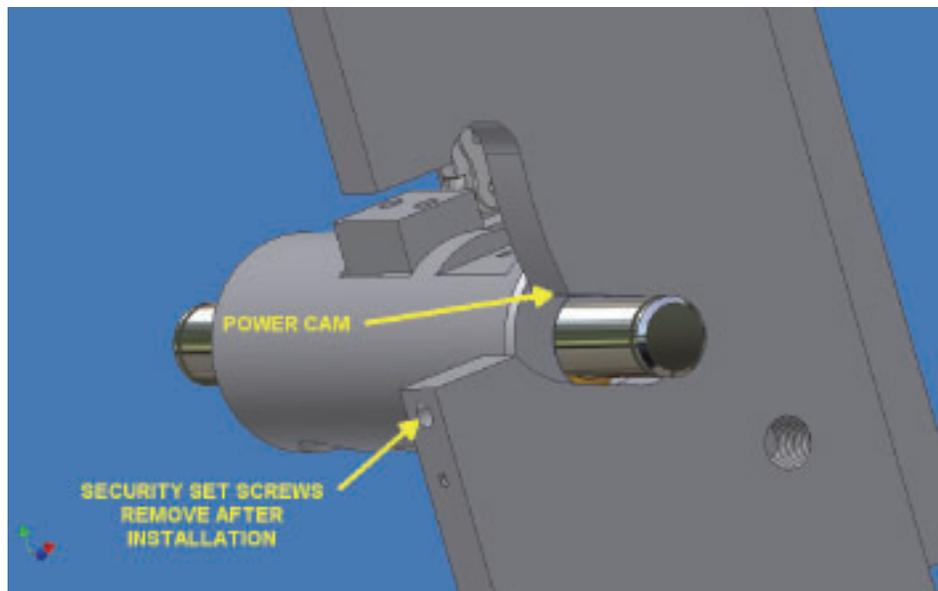

Figure 6
Make sure that security set screws are in place and holding the rotating shaft in the "ready" position (movable shoe open) as shown in Figure 6. Brake units are shipped this way.
- ◆ Install the security set screws (Figure 6) so that they are holding the rotating shaft in position.
- ◆ Remove the security set screws (Figure 6).
- ◆ Install the security set screws so that they are holding the rotating shaft in position (Figure 6).